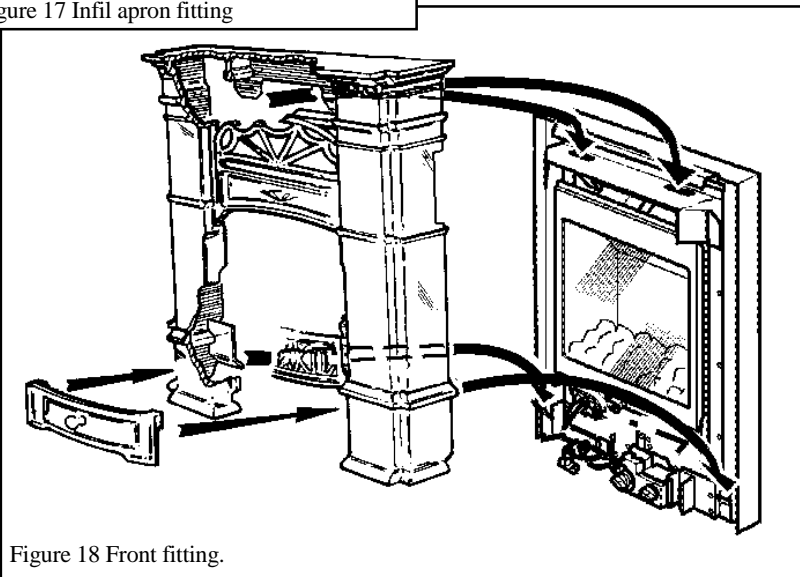

Figure 18 Front fitting.
- The front has a location plate at the rear of the mantle shelf and a location bracket near the bottom rear of each vertical column. These locate into the convection box. Carefully lift the cast front into position squarely with the convection box. Holding the cast front a little above the top surface of the convection box, locate the two lower location brackets into the lower case brackets and the upper location plate into the two slots in the upper case support. Gently lower the cast front making sure that it causes no damage to the floor. The cast front should sit squarely on the floor and be evenly spaced each side of the black appliance case surround. See figure 18.